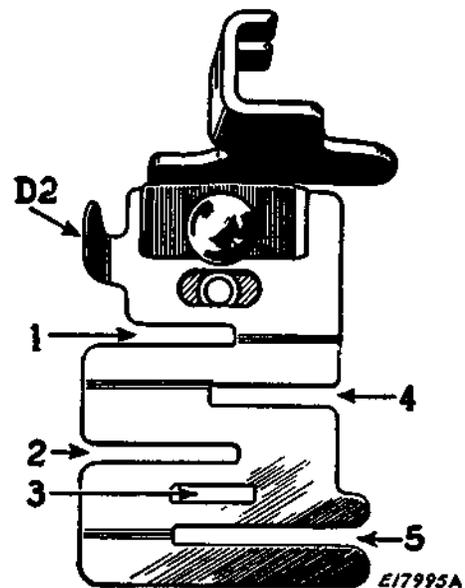

FIG. 51
The distance from the line of stitching to the edge of the material in the slots is regulated by moving the lug **D2**, **Fig. 51** to the right or left.
- (1) Insert one of the laces in slot **1** of the edge stitcher and the other in slot **4**, **Fig. 51**.
- (2) Adjust the lug **D2** until the edges to be joined are caught by the stitching.
- (3) Slightly overlap the edges of the lace while stitching to keep them against the ends of the slots.
- (4) Loosen both thread tensions to avoid puckering of fine lace.
- (1) Cut the piping bias and twice the width of the slot **3** so that it can be folded once.
- (2) Insert the piping with its folded edge to the left in slot **3** and the edge to be piped in slot **4**, **Fig. 51**.
- (1) Place the garment under the edge-stitcher and the tape in slot **1** or **4**, **Fig. 51**.
- (1) A wide hem may be stitched evenly on sheets, pillow slips, etc., with the edge-stitcher after the hem has been measured and the edge turned.
- (2) Insert the edge in slot 5, Fig. 51, and adjust the lug **D2** to stitch as close to the edge as desired.
- (1) To make a uniform width French seam, insert the two edges to be joined, wrong sides together, in slot 1 or 2 Fig. 51 and stitch close to the edge.
- (2) Fold both right sides together and insert the back of the seam in the slot 1 and stitch, allowing just enough margin to conceal the raw edges.